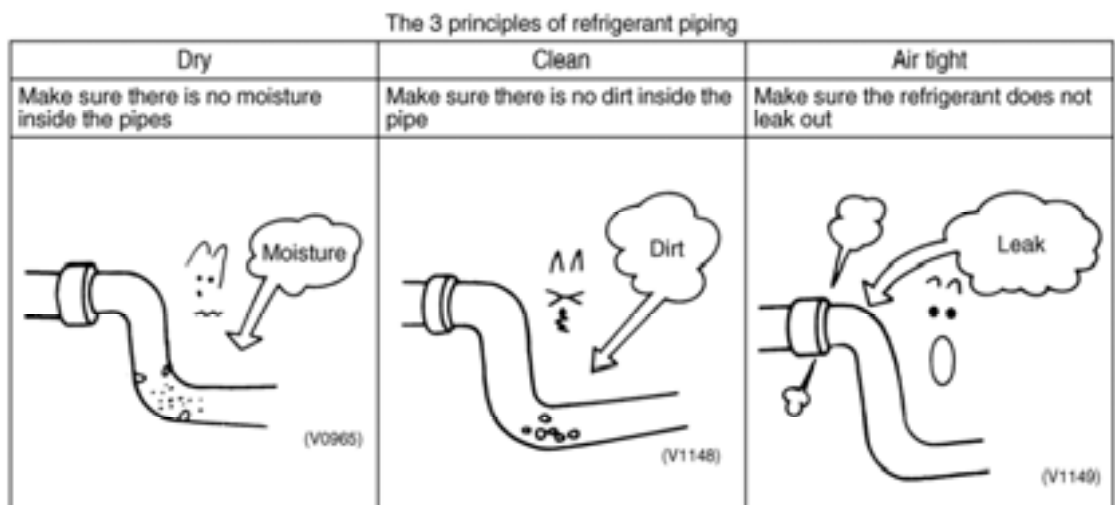

Fig.3.1.6
- ◆ Tighten the flared nuts with torque wrench, until you hear a 'KATA' sound from the torque wrench, as shown in Fig.3.1.6. See Table 3.1.6 for the torque required for tightening the nuts.